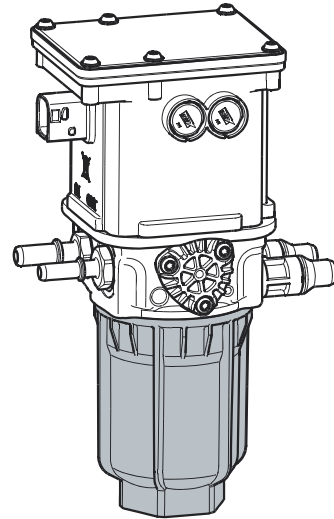

Figure 7 Replace Filter Housing
14. Reinstall the filter housing. See Figure 7. Use a 46 mm socket. Tighten to 59 lb-ft (80 Nm).